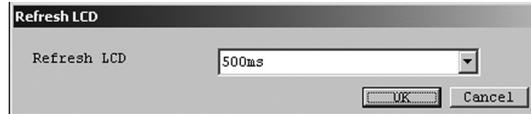

Fig.69
- ① Click the "Setup (S)" menu, and then select and click "Refresh LCD" from the "LCD" drop-down list.
- ② The following window will be displayed (Fig. 69). Set the display update frequency for displaying measurement values on the LCD here.